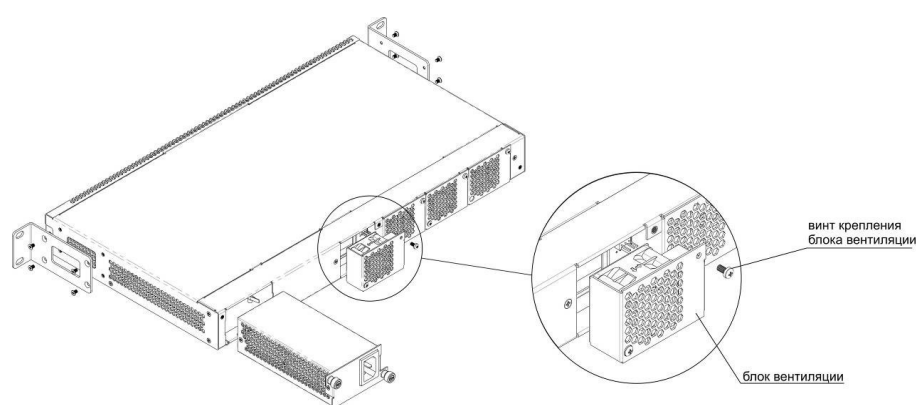

Fig. 34.1. Ventilation Unit. Installation to the Case
Step 1. Use a screwdriver to remove the right screw connecting the ventilation unit with the rear panel (see Fig. 34.1).
Step 4. Screw the ventilation unit to the rear panel (see Fig. 34.1).